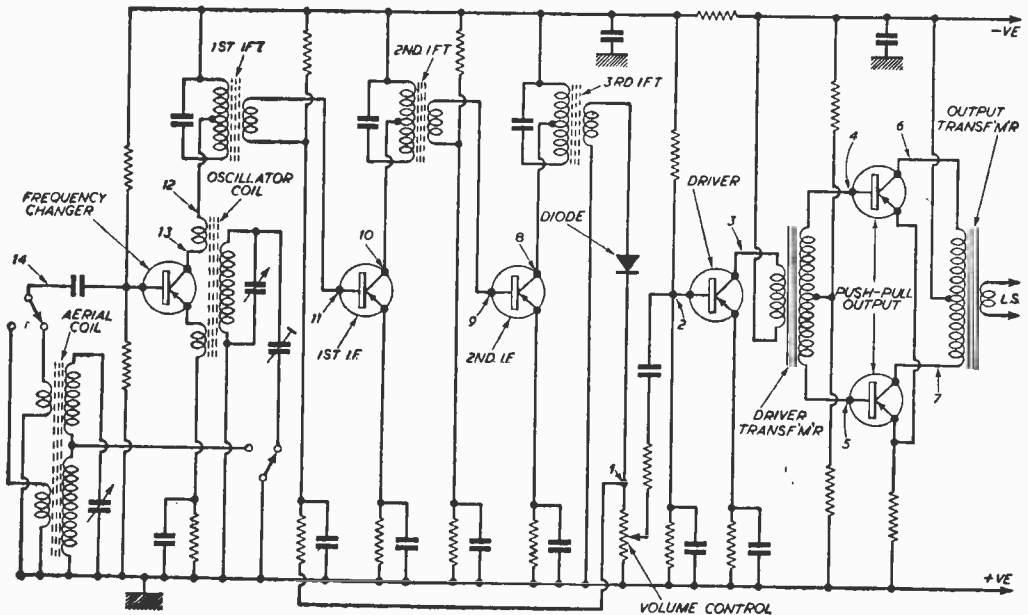

Fig. 1.—A typical transistor circuit with test points.
If headphones are available, they can be used to trace the audio signal. A 0.1μF or similar condenser should be included in one phone lead. Referring to Fig 1, the phones may be connected from (1) to chassis or earth line. If reception is good, the first three stages are working. Transfer one phone lead from (1) to (2). If reception ceases, the volume control or resistor and condenser between (1) and (2) are suspect. Remove the lead to (3). Signals should be considerably louder. If not, the driver transistor or associated connections and parts are defective. Try the lead on (4) and (5). If there is no signal at either point that half of the driver transformer, or connections to it, should be tested. If the signal is still available at (4) and (5), check at (6) and (7). A further amplified signal should be heard. If not suspect the associated transistor.